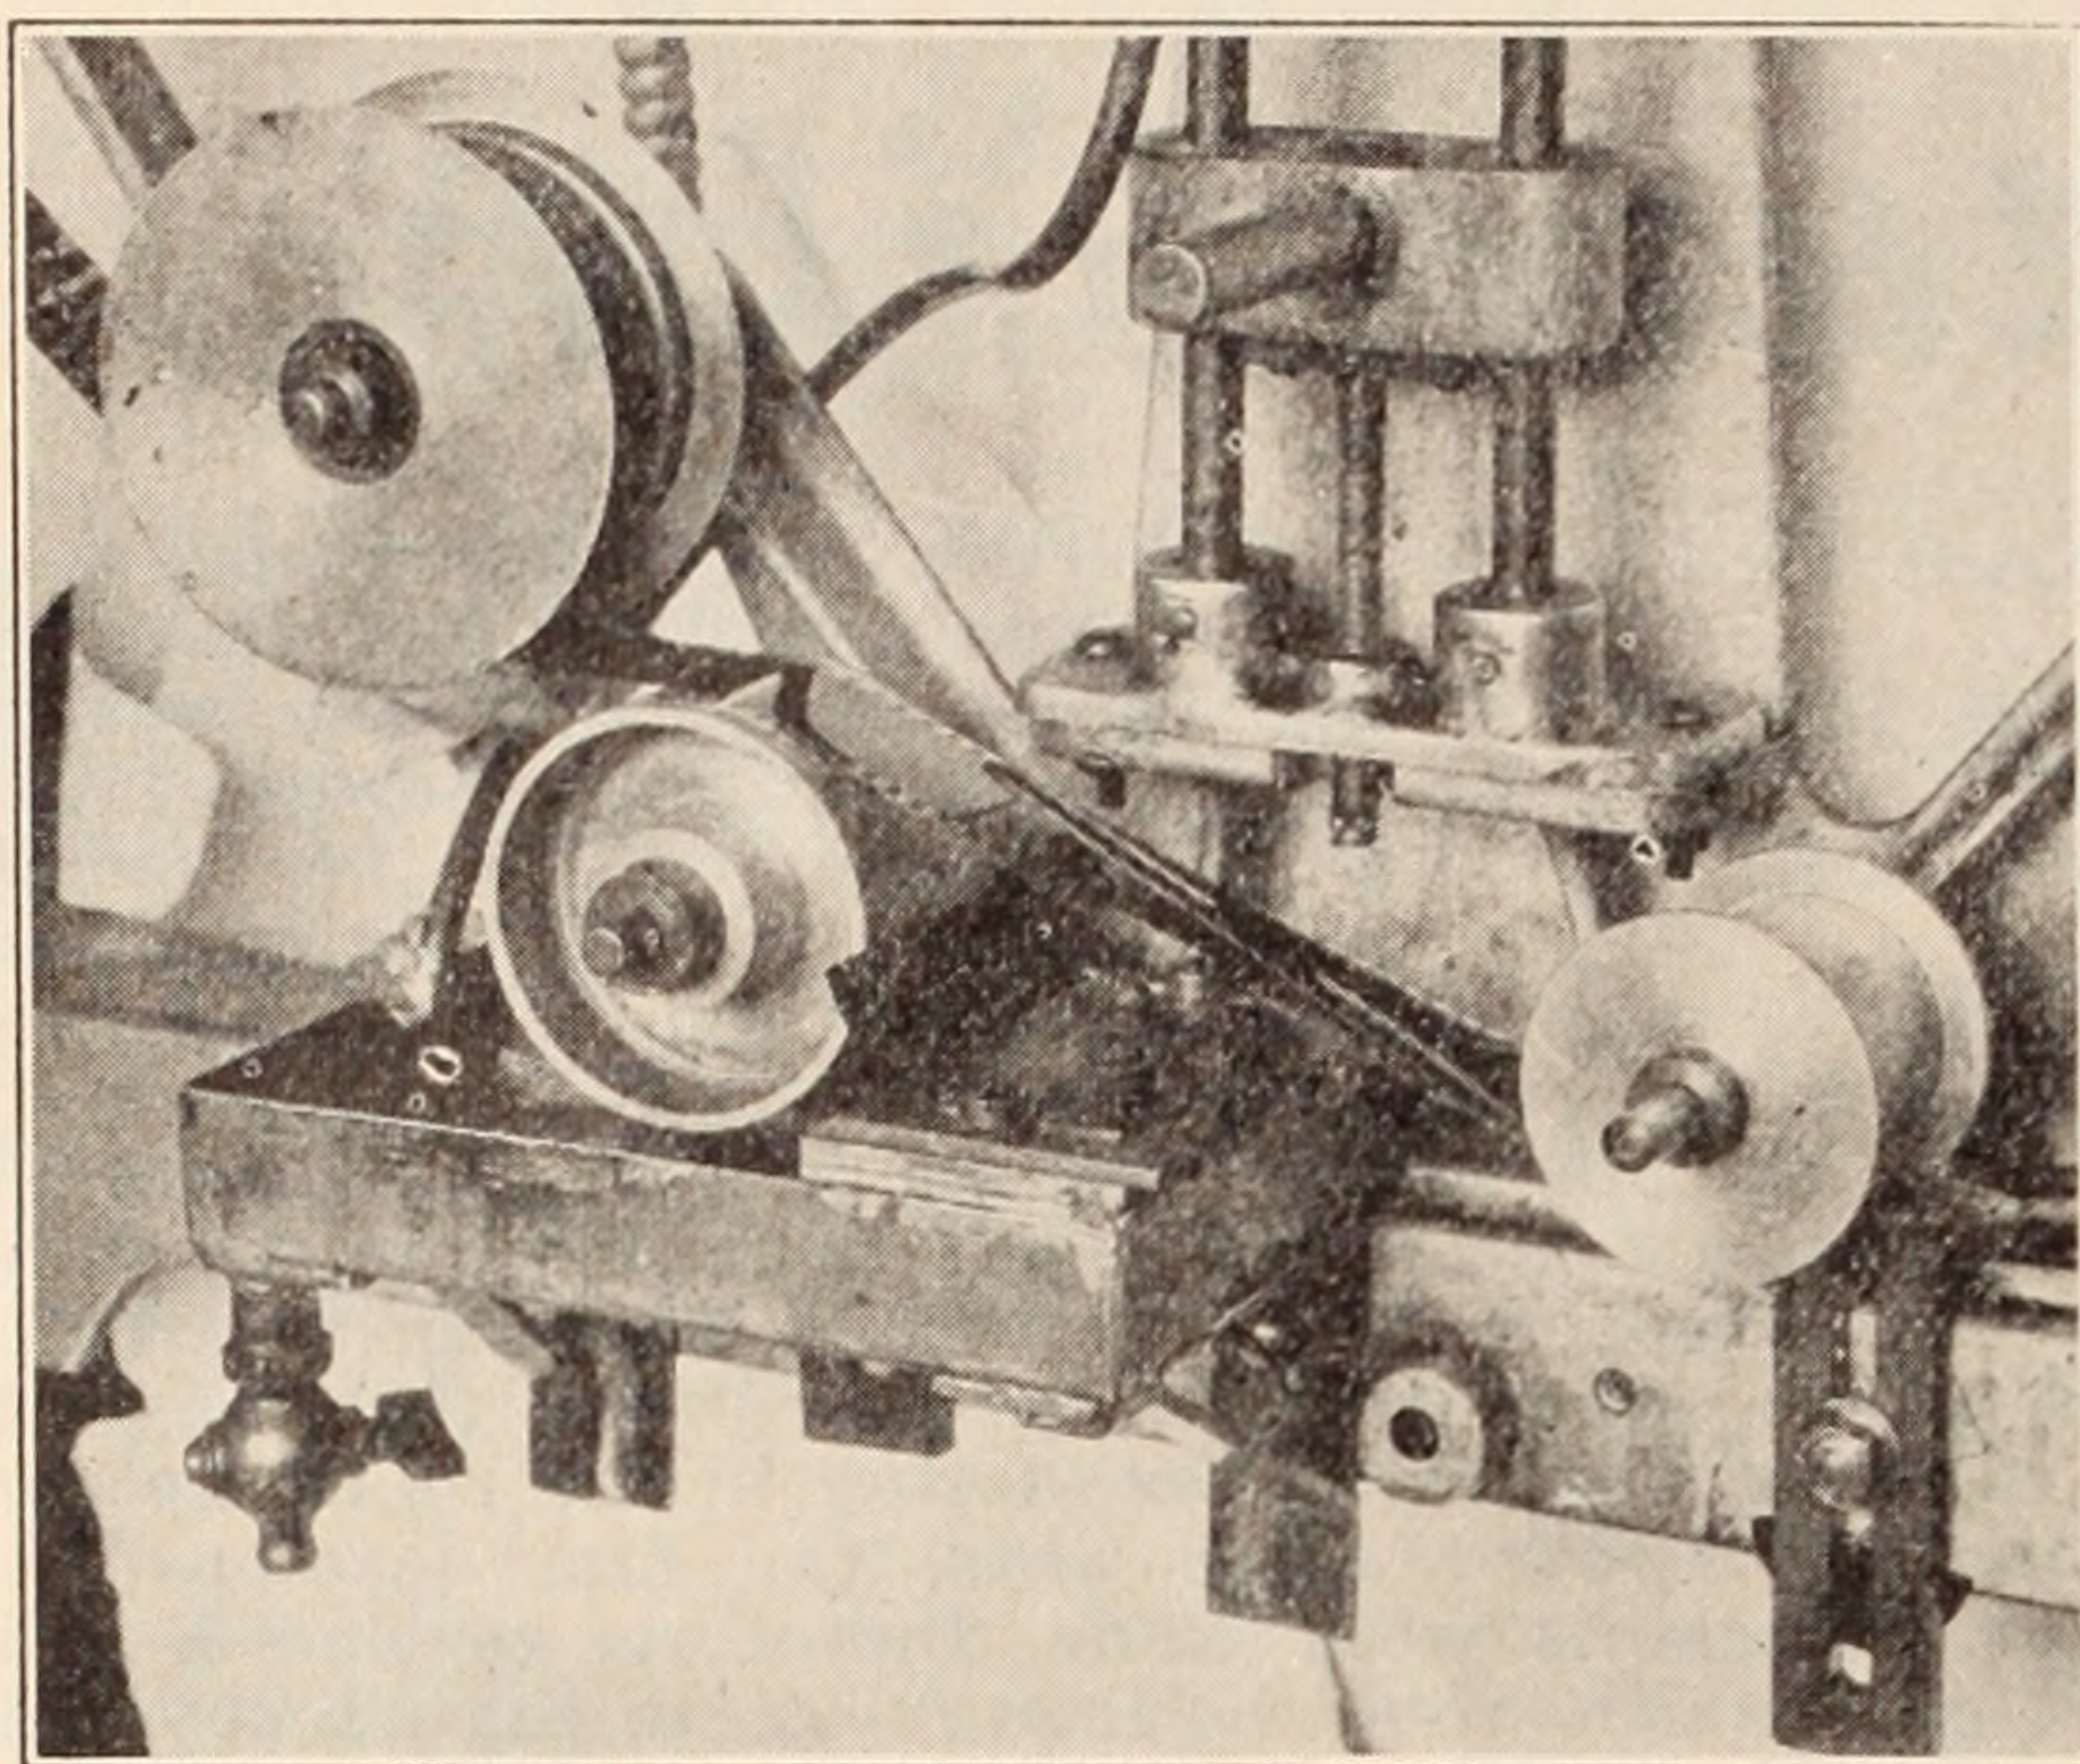

Fig. 11—Application roller for applying wax solution.
(B) An entirely satisfactory mechanism for applying the wax solution is shown in Fig. 11. The film
rollers as first developed by the authors. It is suggested that the single application roller shown in Fig. 11 be fitted to the new type machine.